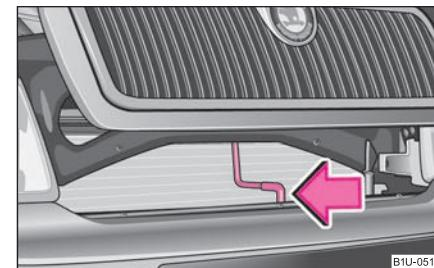

Fig. 15 Radiator grille: Locking lever
- Press the locking lever in direction of arrow ⇒ page 14, fig. 15 and lift up the bonnet.